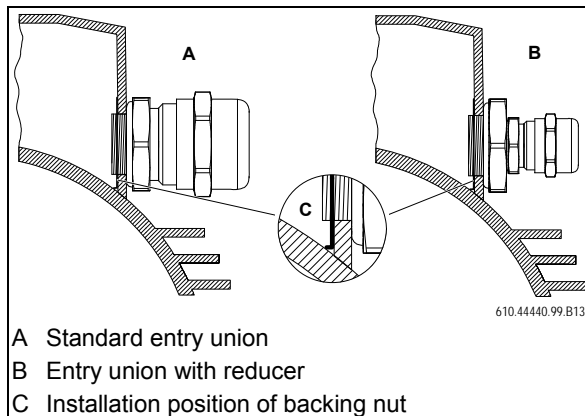

Fig. 12: Entry unions with backing nut
- Fit the entry union (item A, Fig. 12, page 19)
- Screw in the reducer for the PTC resistor connection (item B, Fig. 12, page 19).
- connect up the connection frame in accordance with the wiring diagram inside the terminal box (item 1, page 3).